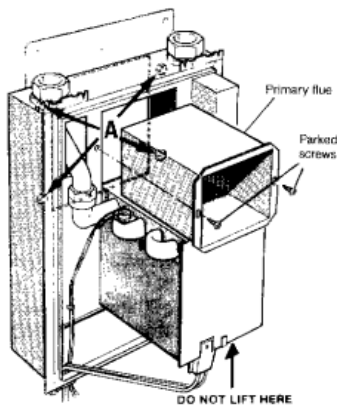

Fig. 9
2.5 Prepare the Boiler and Secure it to the Wall Plate - See Fig. 9.
2. Lift the boiler into position, lift by the chassis NOT the burner/combustion chamber, and locate the four holes in the back of the chassis over the studs on the wall plate. Secure the boiler to the wall plate using the four nuts, 'A' in Fig. 9, previously removed from the wall plate in Section 2.3. Tighten the nuts to form a seal.
3. Remove the two screws parked at either side of the flue opening, See Fig. 9.